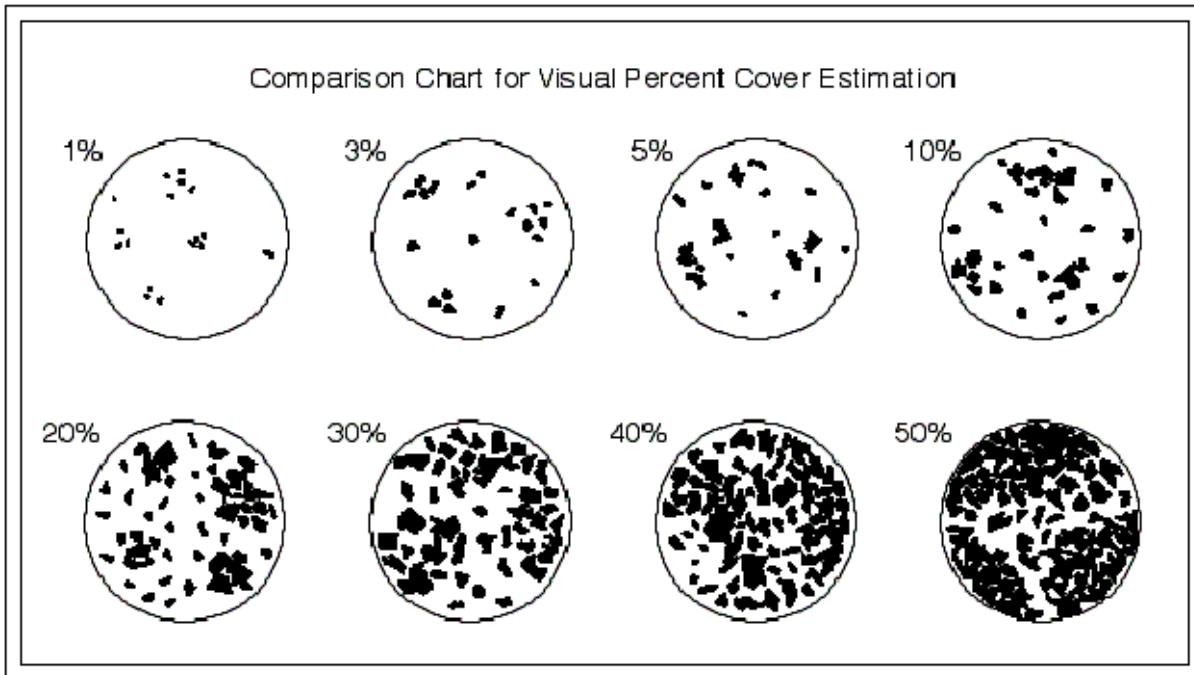

Figure 10: Guide for estimating percent cover. Source: www.nature.nps.gov
Figure 7: (labeled Figure10 in image). Source: Gadoury et al. 2012, <http://grapesandwine.cals.cornell.edu/cals/grapesandwine/appellation-cornell/issue-11/loader.cfm?csModule=security&getFile&PageID=1074171>
- We record the percent of all buds on the cluster in flower (from 0-100%), in units of 5% (i.e., no need to estimate 3% or 34%, just report 5% and 35% ... aim to be accurate within 10% but most important is consistency and taking photos). Figure 10 gives a visual guide for percent cover up to 50%.
- We record the percent of all berries on the cluster that have undergone veraison (from 0-100%), in units of 5% (i.e., no need to try to estimate 3% versus 5% ... hope to be accurate within 10% but most important is consistency and taking photos). Figure 10 gives a visual guide for percent cover up to 50%.